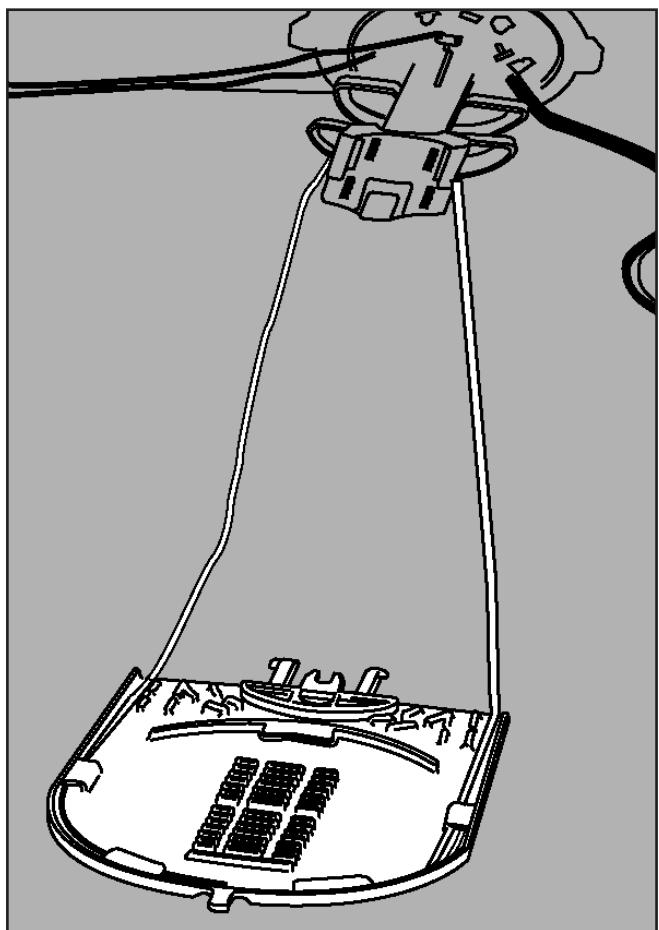

Figure 12
12. Extend in a straight line away from the splice area and cable butt. This will be your reference point for all-additional preparation and splicing (Figure 12)